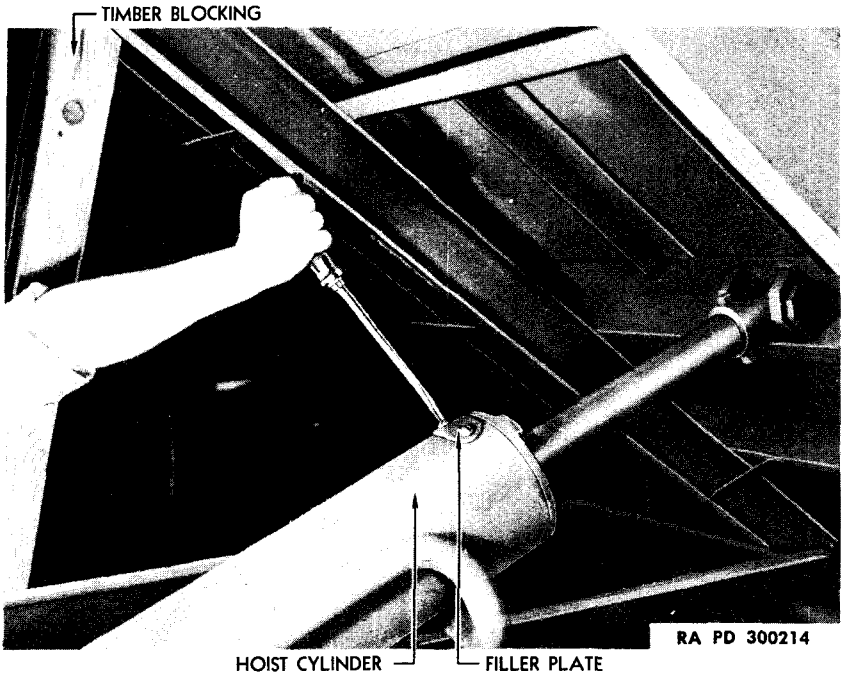

Figure 128—Timber Blocking
a. Before attempting to make any inspection or adjustment to the body or operating mechanism while body is raised, make sure the body is adequately supported by suitable blocking (fig. 128).
(1) Tighten bracket bolts holding subframe to vehicle frame, also body guide bracket bolts.
(1) With body in fully raised position and safety blocking under the body, remove the filler plate or plug (fig. 128). (Anthony cylinder is equipped with a plug).
(2) Fill cylinder with proper grade of oil and replace filler plate or plug loosely.
(3) Remove the safety blocking, then raise and lower the body six times. This will free the cylinder of air. **CAUTION: Do not speed the engine while raising or lowering the body, as this will cause air pockets to form in the oil.** Idling speed is proper for this operation.